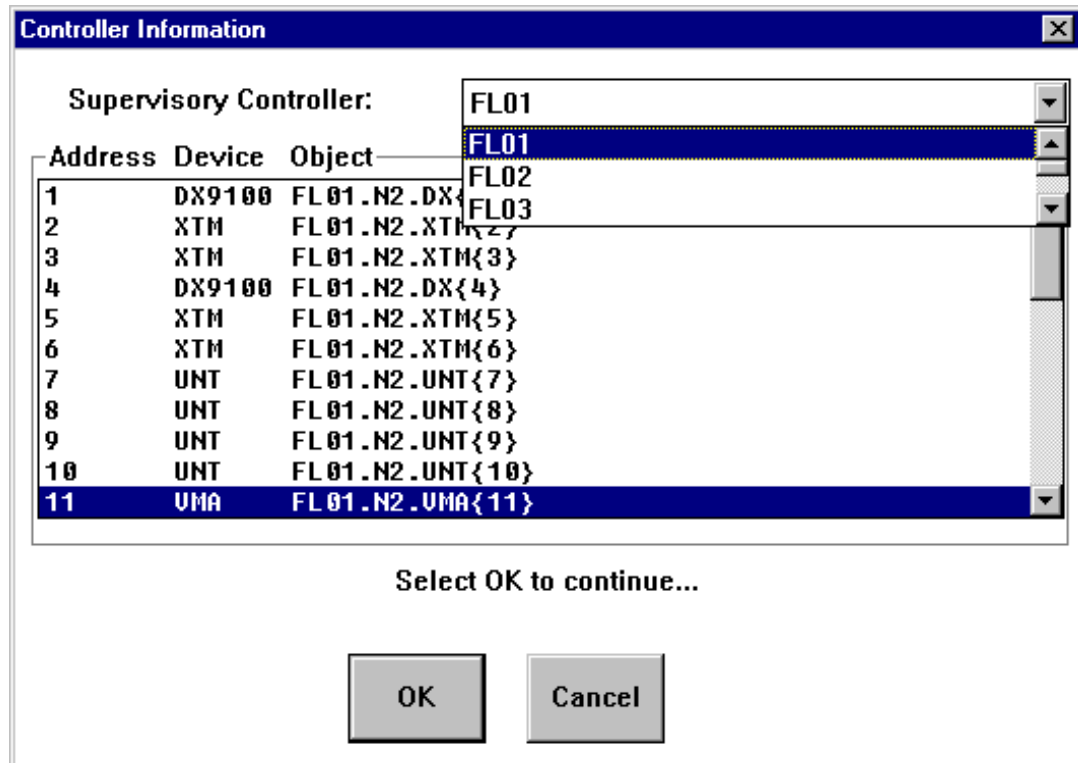

Figure 17-13: Controller Information Dialog Box
2. Select Single Device. HVAC PRO software builds a list of all Supervisory Controllers on the active network. The Controller Information dialog box appears (Figure 17-13).